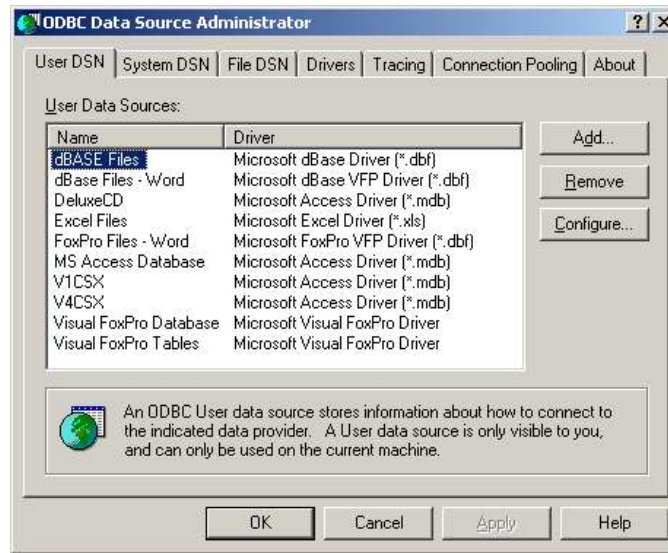

Figure 2-6. ODBC Data Source Window
5. Click on the 'System DSN' tab, then click 'Add...'. The 'Create New Data Source' dialog will appear, as shown in Figure 2-6.